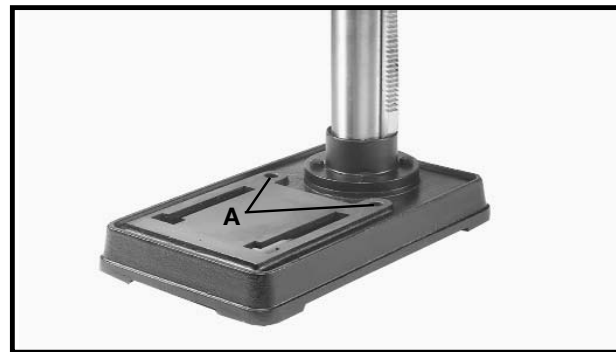

Fig. 17
If during operation there is any tendency for the machine to tip over, slide or walk on the supporting surface, the machine base must be secured to the supporting surface with a M8x1.25x125mm carriage head screw, 8.5mm flat washer, 8.5mm lock washer, M8x1.25 hex nut, through the two holes (A) Fig. 17, located in the machine base.